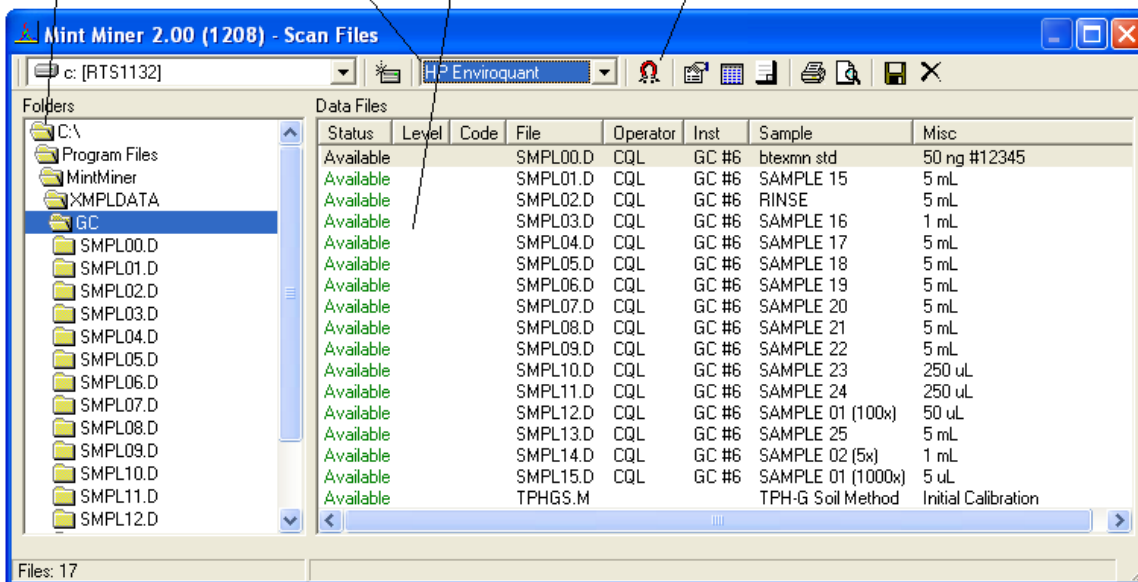

Figure 4.1: A Scan Files dialog example shows files available for scanning.
3. By clicking on the Scan Options icon  on the Scan Files Dialog (See figure 4.1 on page 24).